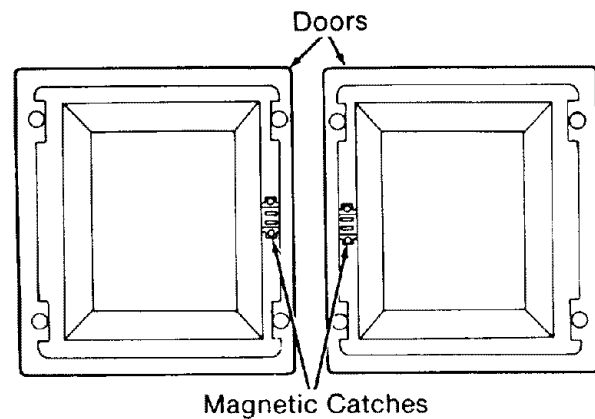

Fig. 60
2. Put a *magnetic catch* on the inside edge of each *door*. (Figure 60)
3. Fasten using four pan head screws. Tighten with a Phillips screwdriver. (Figures 60 & 61)